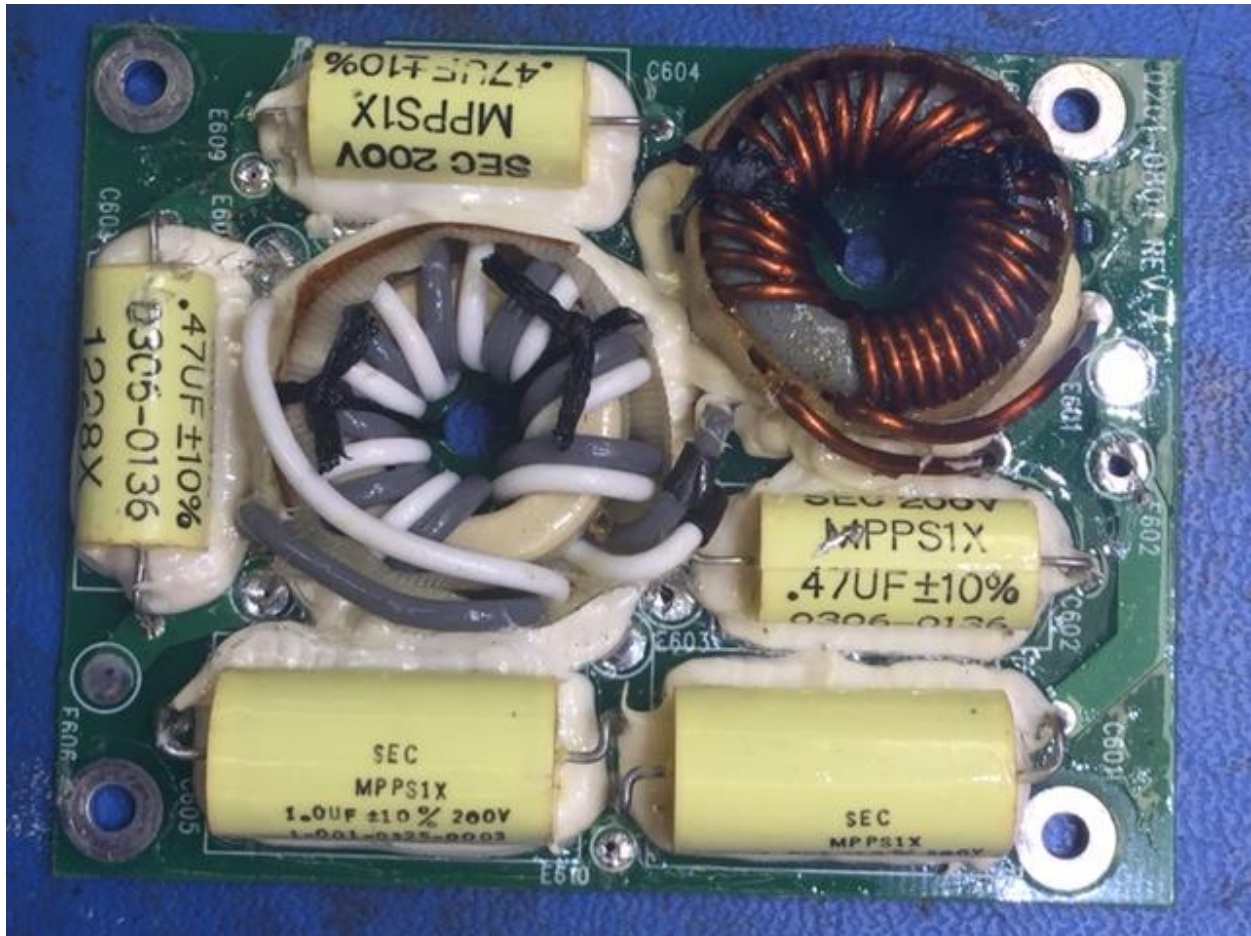

Figure 13
6. Remove EMI Output Assembly from EMI shield by removing (4) screws and washers. (Figure 13).